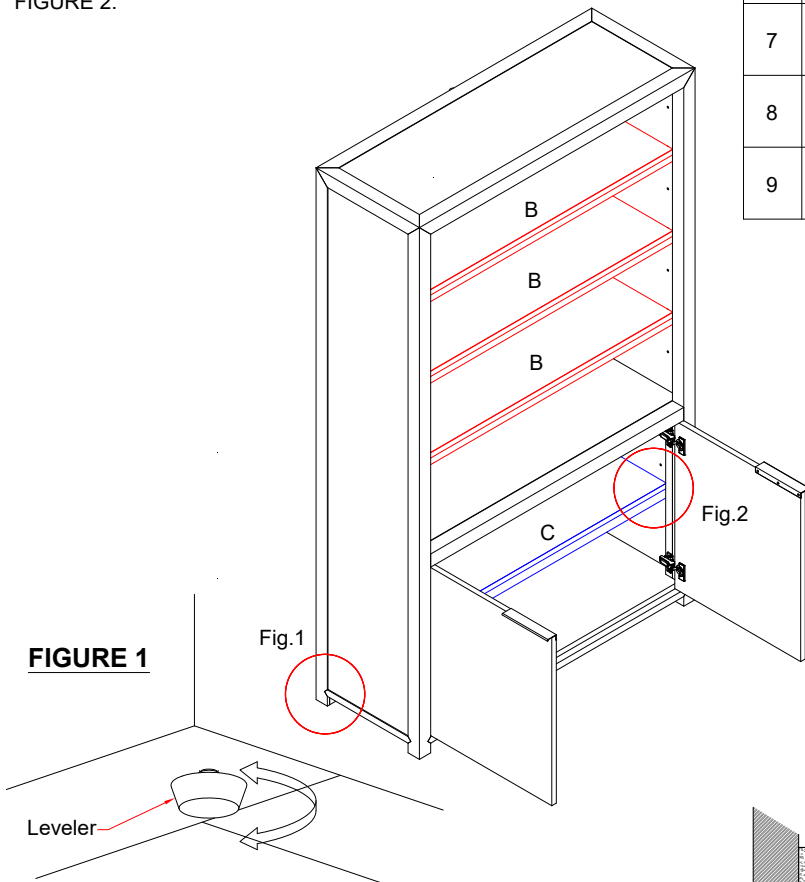

FIGURE 1
1. Place the bookcase at your desired location and check the leveling. If it does not seem level, adjust the levelers underneath the legs. See FIGURE 1.